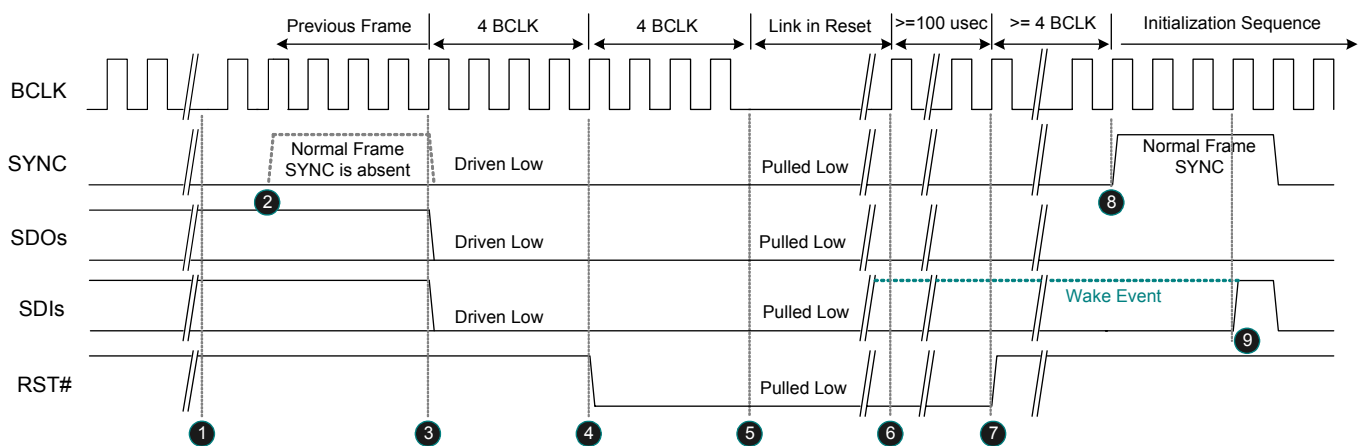

Figure 12. Link Reset Timing
3. Software initiates power management sequences. Figure 12, page 19, shows the 'Link Reset' timing including the 'Enter' sequence (❶~❸) and 'Exit' sequence (❹~❺).